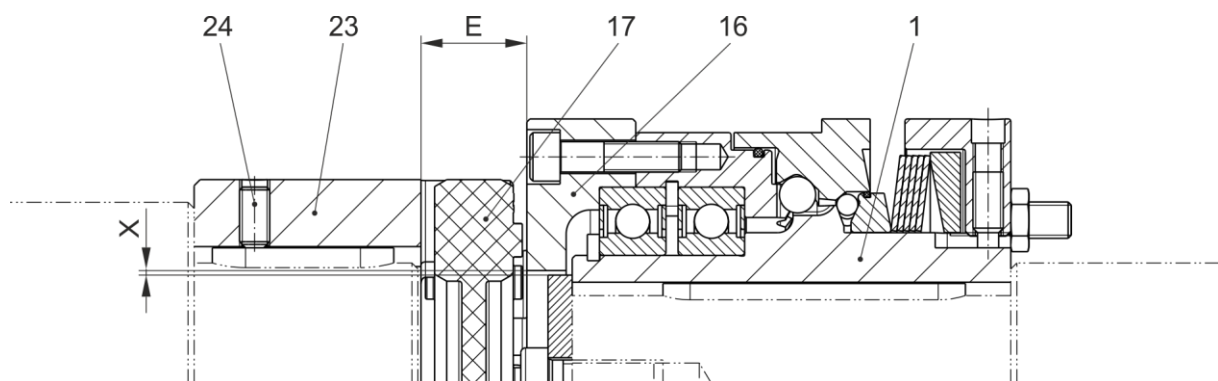

Fig. 9
- Locking set screw (24) for hub (23), see Fig. 9 and Table 7 on page 8,
There must be sufficient radial air between the press cover and the inner diameter of the output element (see Fig. 9).
The distance dimension "E" acc. Fig. 9 and Table 7 must be observed!